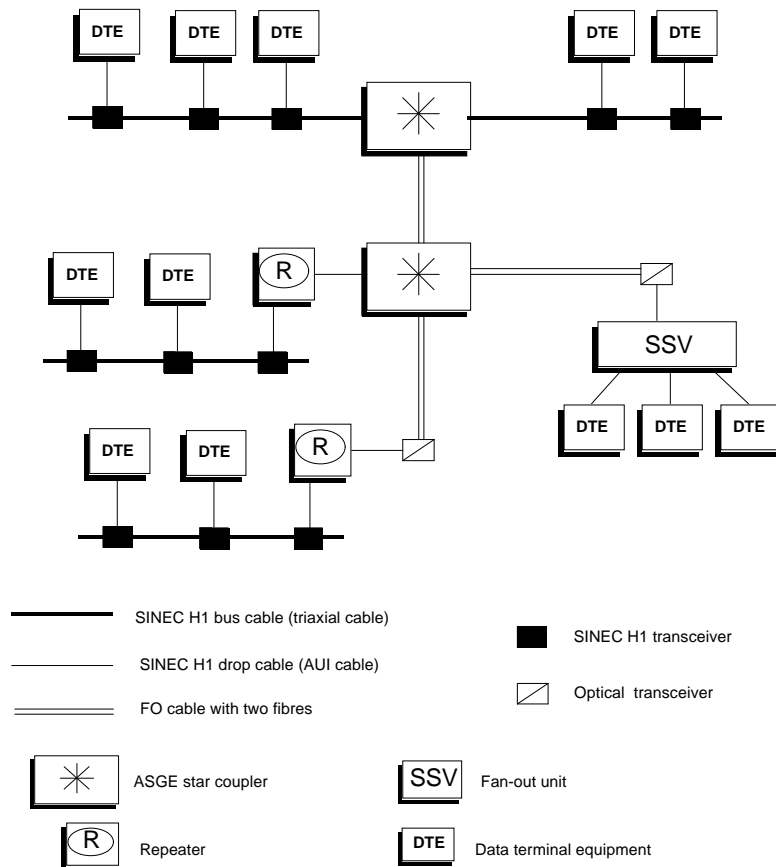
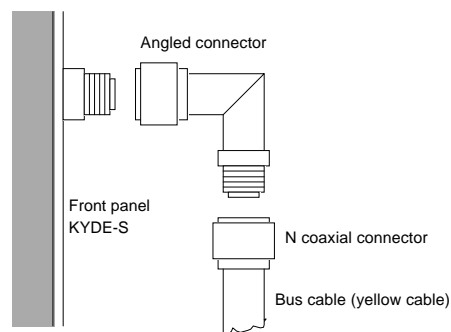

Fig. 2.15: Example of a Mixed Network
Fig. 2.17: Angled Connector
A fan-out unit allows the connection of several DTEs to the SINEC H1 transceiver interface. Fig. 2.12a illustrates the connection of a fan-out unit to a SINEC H1 transceiver. Fig. 2.15 illustrates the connection to a SINEC H1FO transceiver (optical transceiver).
Mixed SINEC H1/H1FO networks allow a flexible topology in an industrial communications network using optical and electrical network segments (see Fig. 2.15). The bus topology for networking automation components via the SINEC H1 bus cable is a proven and extremely cost effective system. The star topology network using SINEC H1FO star couplers allows networking from building to building using fiber optic cables with a range of several kilometers.
- The SINEC H1 727-0 bus cable can be connected directly to the star coupler interface card KYDE-S using an N connector (see Fig. 2.15 and 2.16). With this connection, only the inner conductor and outer conductor of the bus cable are connected to the star coupler. The screen of the bus cable is connected to the protective ground of the star coupler rack using the shielding connection clamp and a ground cable. If the star coupler is installed in a cabinet, the outer screen must be connected to the cabinet ground. The 727-0 bus cable has a permitted bending radius of 125 mm. For this reason, when connecting the bus cable to a star coupler in a cabinet, an angled connecting piece should be used (see Fig. 2.17).
- SINEC H1 bus segments can be connected to an optical transceiver using repeaters and the 727-1 drop cable (see Fig. 2.15). The optical transceiver is connected to the star coupler interface card OYDE-S (BFOC) via an optical network segment (fiber optic cable with two optical fibers).